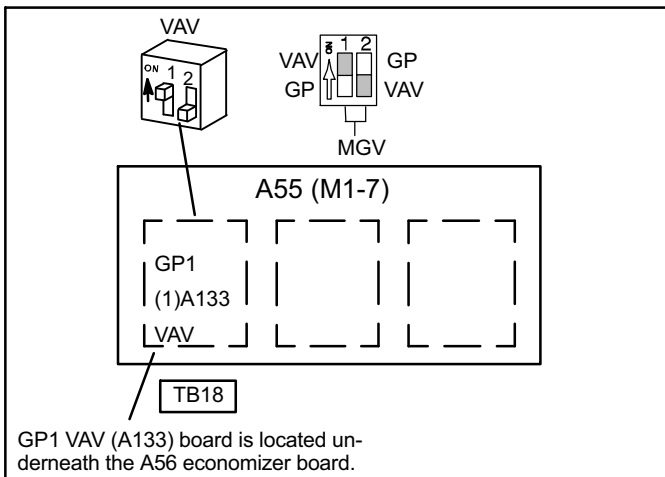

Figure 2. GP1 Board Position on IMC
3. Confirm that DIP switch on GP1 board is set as shown in figure 2.
6. Carefully remove GP1 board from protective packaging. Properly position board over the molex connector at the far top left of the main control board. See figure 2.